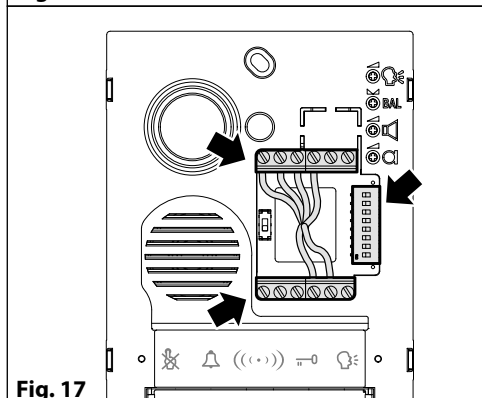

Fig. 17
4. Make all the connection and dip-switch settings according to the wiring diagrams provided (Fig. 17).